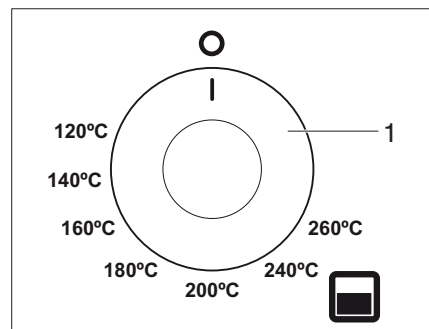

Fig. 172 Control knob of the oven
- ▶ Open the door and push in the control knob (Fig. 172,1).
- ▶ Keep the control knob (Fig. 172,1) pressed for about 10-15 seconds and then release it.
- If the burner accidentally extinguishes turn the control knob (Fig. 172,1) to the 0 position and wait at least 1 minute before re-igniting the burner.
- ▶ Turn the control knob (Fig. 172,1) clockwise to the 0 position to turn off the burner.